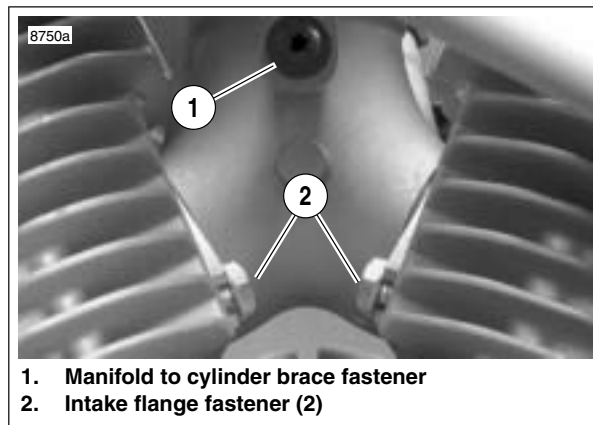

Figure 4-108. Intake Manifold (Primary Side)
- a. See Figure 4-108. On primary side, loosen but do not remove the two front and rear intake flange fasteners (2).
- a. See Figure 4-108. Slide the assembly toward installed position. Manifold should slide over fasteners (2) on primary cover side of engine.
4. See Figure 4-108. Install fastener holding manifold to cylinder brace and tighten to 90-120 in-lbs (10-13.6 Nm).